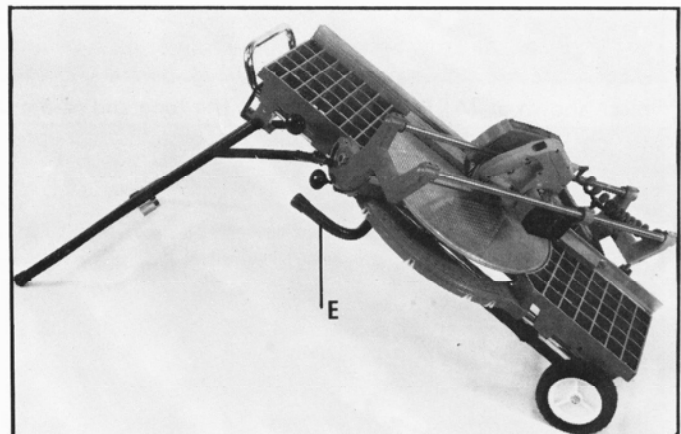

Fig. 69
4. Fold up the right hand leg (E), as shown in Fig. 69.